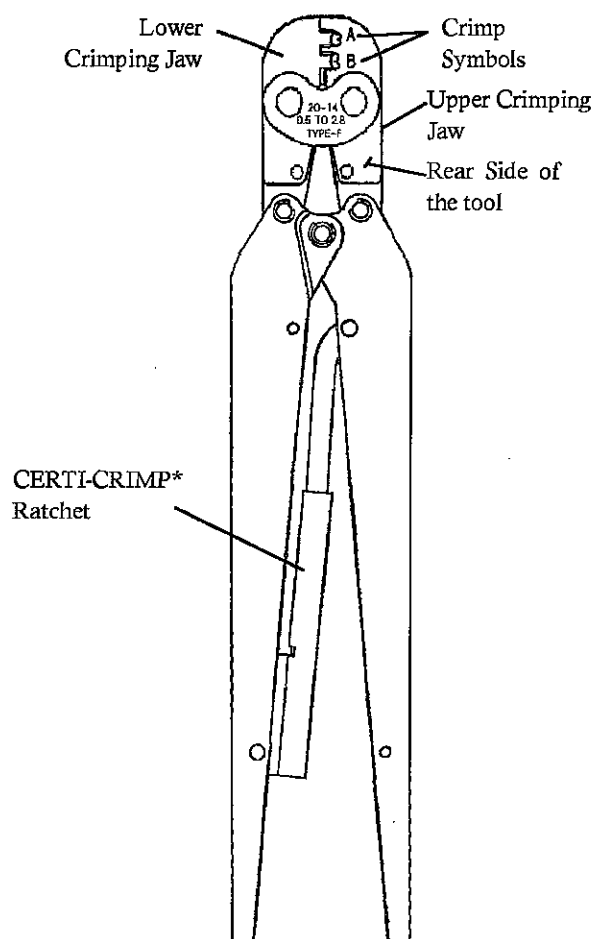

Fig.1
1. The tool (see Fig.1) covered by this Instruction Sheet, crimps the applicable terminals listed in the table (Fig.2) below. These terminals can accept the stranded wires of the listed range.